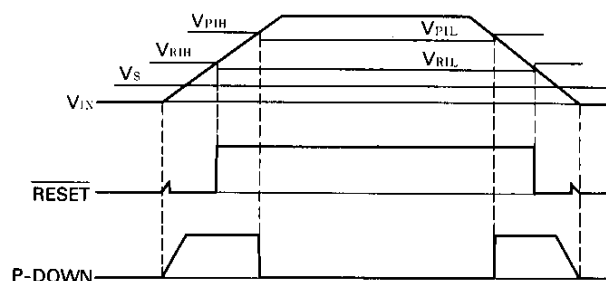

Fig. 2 Timing chart
Figure 2 shows how the P-DOWN and [RESET] outputs differ as the supply voltage  $V_{IN}$  varies. The [RESET] signal generation level  $V_{RIH}$  and [P-DOWN] signal generation level  $V_{PIH}$  after an increase in supply voltage  $V_{IN}$  can be calculated using formulas (1) and (2). Until the supply voltage  $V_{IN}$  exceeds  $V_{RIH}$ , the [RESET] signal output transistor remains ON and continues to output the reset signal. Until the supply voltage  $V_{IN}$  exceeds  $V_{PIH}$ , the [P-DOWN] signal output transistor remains OFF and continues to output the power-off signal.